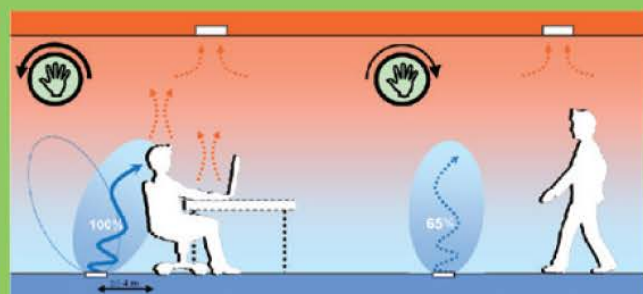

Figure 6
• **Option "IV = Inclined-Vertical"** (figure 6)
- Includes items 4 to 10 above.
- Optional Configuration "IV" (figures 6): User adjustable discharge direction. Combined user-adjustable air pattern and airflow rate.
- Includes items 4 to 11 above.